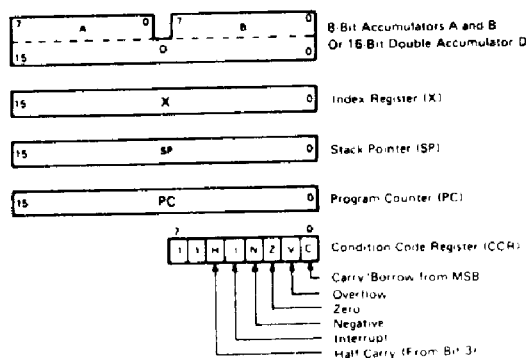

Figure 20 CPU Programming Model
- CPU programming model (See Fig. 20)
The programming model for the HD6303R is shown in Figure 20. The double accumulator is physically the same as the accumulator A concatenated with the accumulator B, so that the contents of A and B is changed with executing operation of an accumulator D.